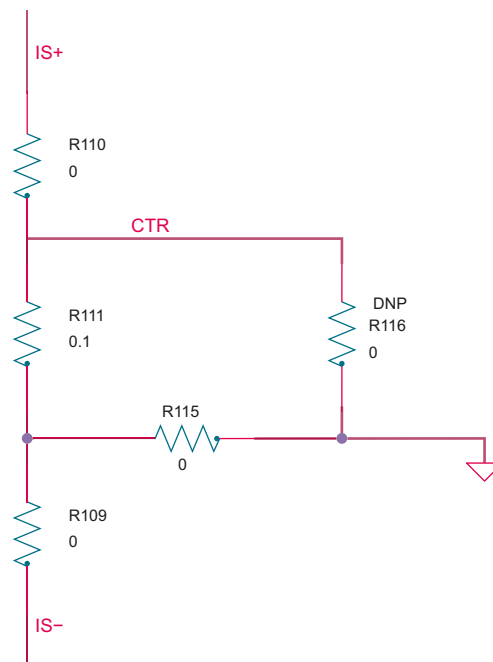

Figure 14. Resistor configuration
1. Make sure that R109, R110, R111 (0.1  $\Omega$  shunt) and R115 are populated and R116 is not placed (see Figure 14).